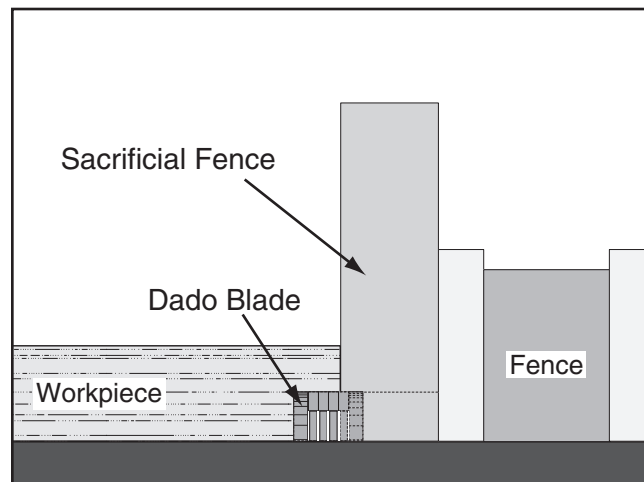

Figure 64. Rabbet cutting.
3. Adjust the fence and align the workpiece to perform the cutting operation, as shown in **Figure 64**.